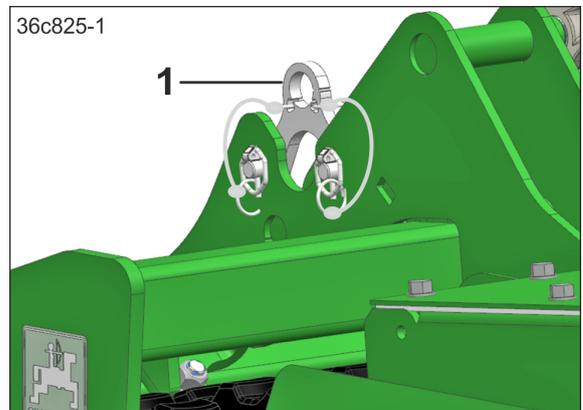

Fig. 140
14. For parking, insert the coupling pieces (Fig. 140/1) in the same spot and secure them.